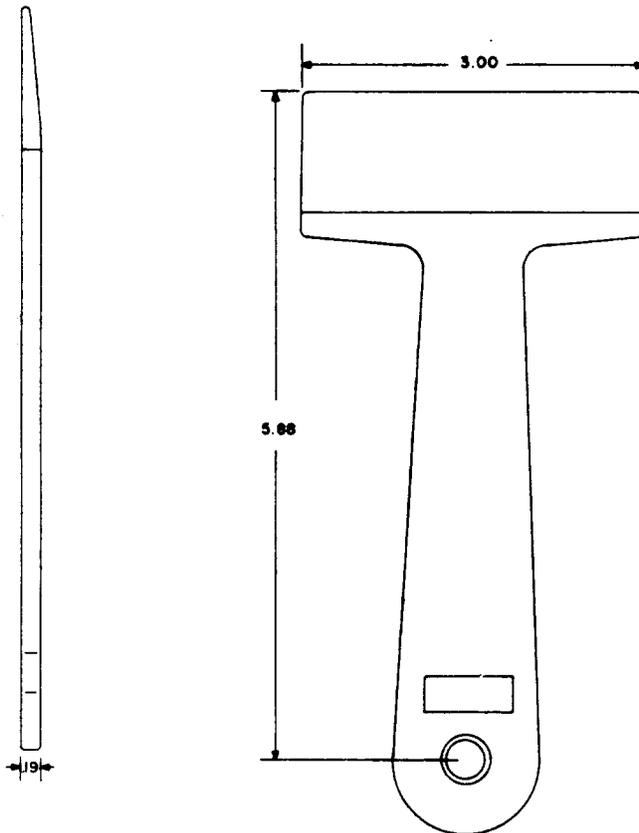

Fig. 19—954A Wire and Cable Insertion Tool
2.21 **954A:** The 954A wire and cable insertion tool (Fig. 19) is designed to push wire or cable leads into the index strip to the front of the 93 series connecting blocks prior to impacting them with the 834B insertion and cutoff tool.